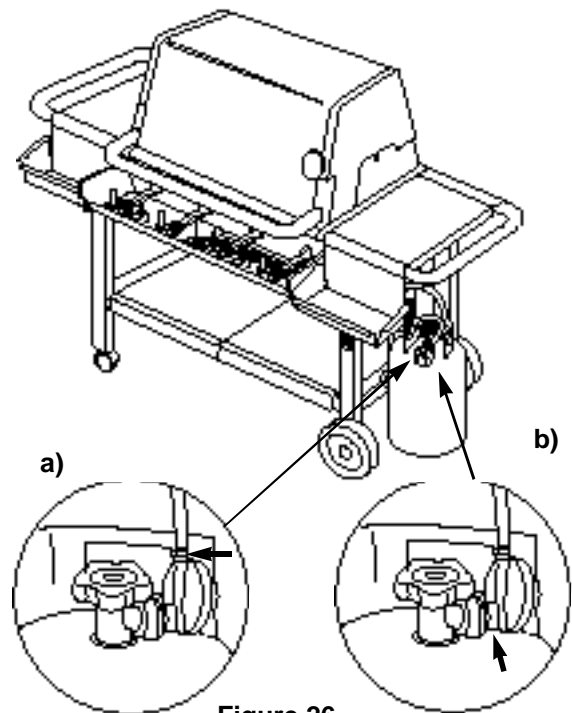

Figure 26
- a) Hose to regulator connection. Figure 26 (a).
- b) Regulator to tank connection. Figure 26 (b).